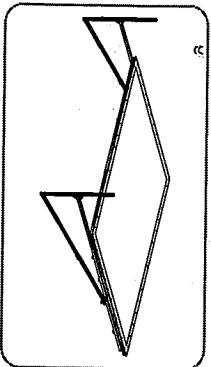

Figure 22
1. Lay down the screen on flat floor with screen fabric facing up (Figure 22).